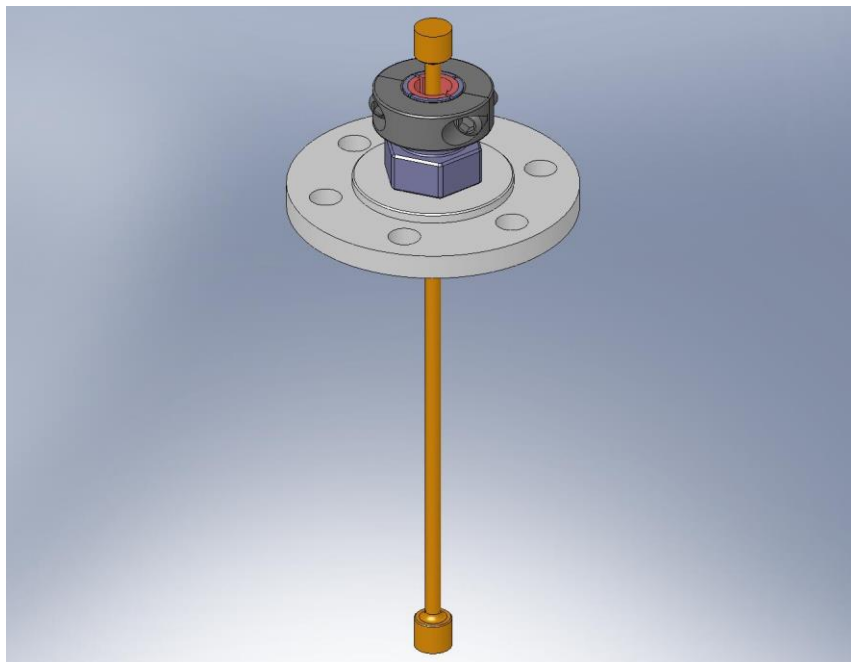

Figure 4.11. Shaft collar must be placed over the end of the Flexure Mount. Do not tighten the screws, yet.
- Place **D0900207** shaft collar with *silver-plated* screws over the collet end of the **Flexure Mount**, as shown in Figure 4.11.